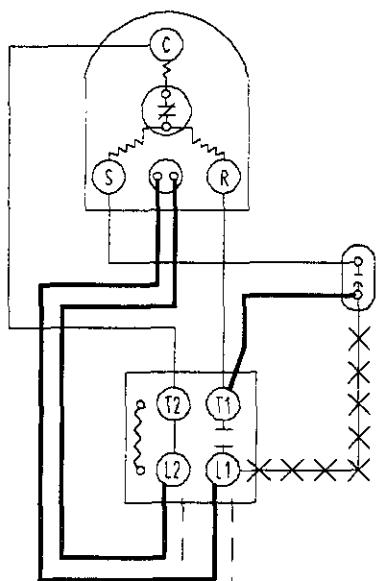

FIG. 1
1. Capacitor change required. Rewire as original. (See Figure 1 on page 2.)
2. Capacitor must be changed and rewired. (See Figure 1 on page 2.)
5. Rewire capacitor. (See Figure 1 on page 2.)